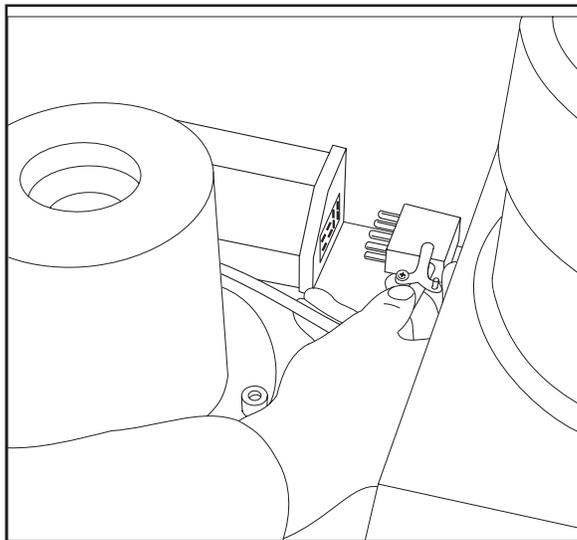

Figure 2.2
4. Plug in the end of the heater exchanger cable into the electrical assembly as shown in Figure 2.2.